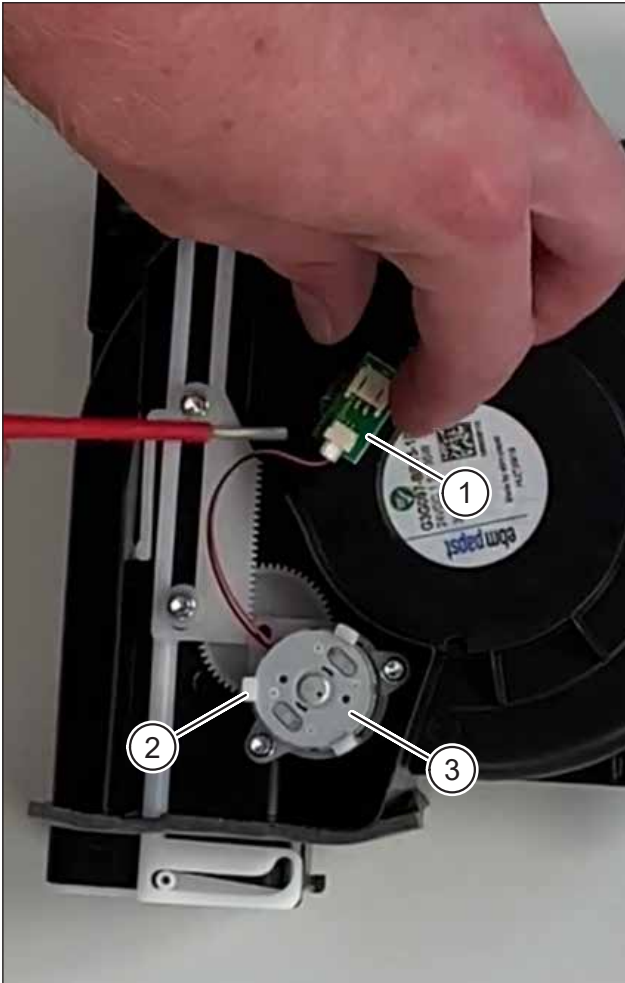

Fig. 11: Remove flap motors for air flaps
- ▶ Use a screwdriver to lift the connection PCB (item 1 in Fig. 11) for the flap motor off the removed supply air and exhaust air fan.
- ▶ Push the retaining clips (item 2 in Fig. 11) for the flap motor outwards and pull the flap motor (item 3 in Fig. 11) off the removed supply air and exhaust air fan.